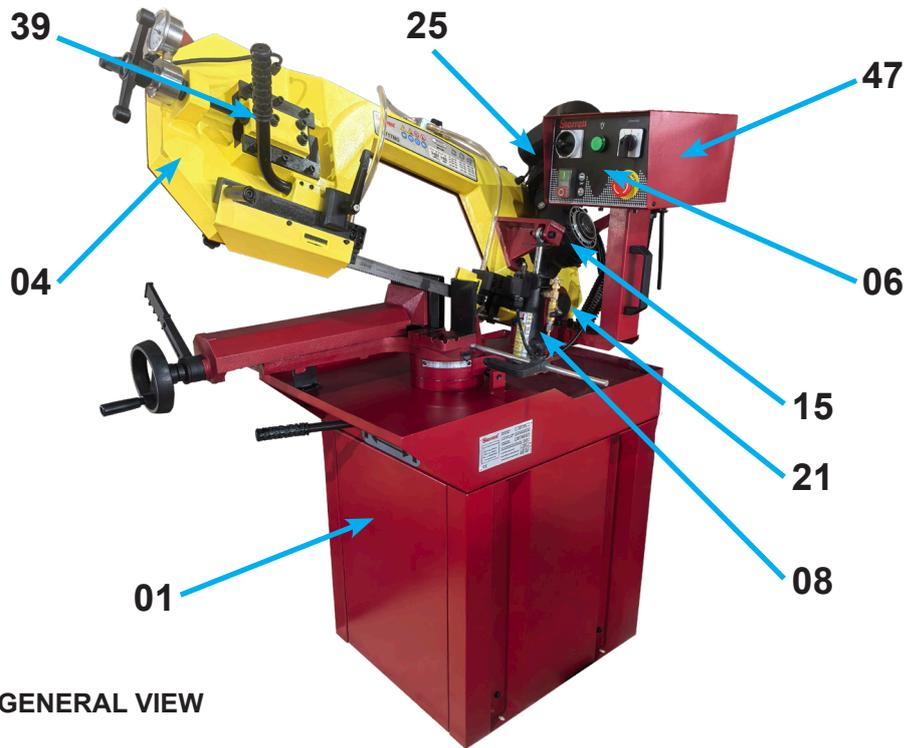

FIGURE 7.1 - GENERAL VIEW
The Vise Set (17) is responsible for rigidly fixing the material to be cut on the Cutting Table (07). This set has longitudinal movement in the direction of fixing the material, which is manually controlled by the Handwheel (19). The Quick Tighten Lever (20) also controls the tightening or loosening of the same on the material (figures 7.1 e 7.2).